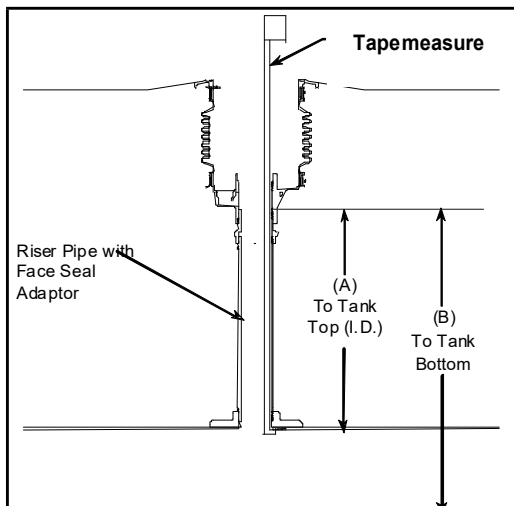
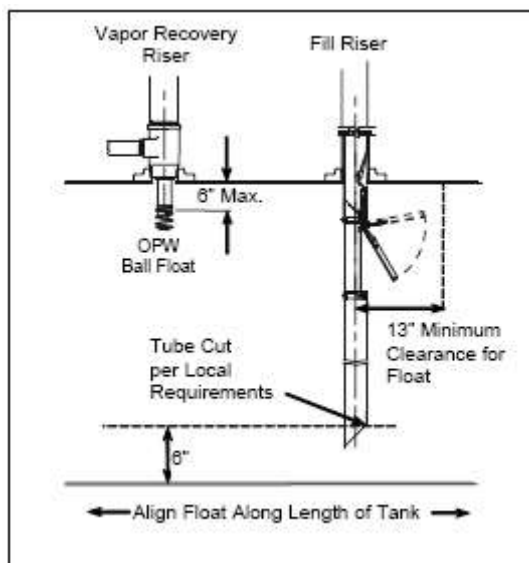

Figure 1
Figure 16
(See Figure 1 & 1A).
Measuring from the underside of the inlet tube flange, mark the overall length of the drop tube a distance of (B) minus 6" or as per local codes or requirements. Determine dimension (B) from the measurements taken in Step 1, Figure 1 (Top of the Face Seal Adaptor below the drain valve outlet in the spill container to the bottom of the tank). Saw off the excess tube at a 45-degree angle, and file off any sharp burrs (Refer to Figure 16). Optional: Install the OPW Tank Bottom Protector on the lower tube (Refer to Installation instructions supplied with the Tank Bottom Protector).